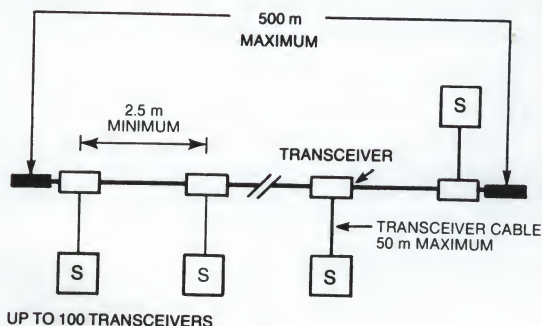

Figure A-8 ▪ Standard Ethernet Coaxial Cable
- Stations are attached to the cable using transceivers and approximately 5 to 50 meters (approximately 16.5 to 165 feet) of transceiver cable (Figure A-8). A station can be a PC, host, bridge, terminal server, router, or SNA Gateway. The maximum allowable length of cable depends on the station type. Refer to the *DECconnect System Planning and Configuration Guide* for full details.